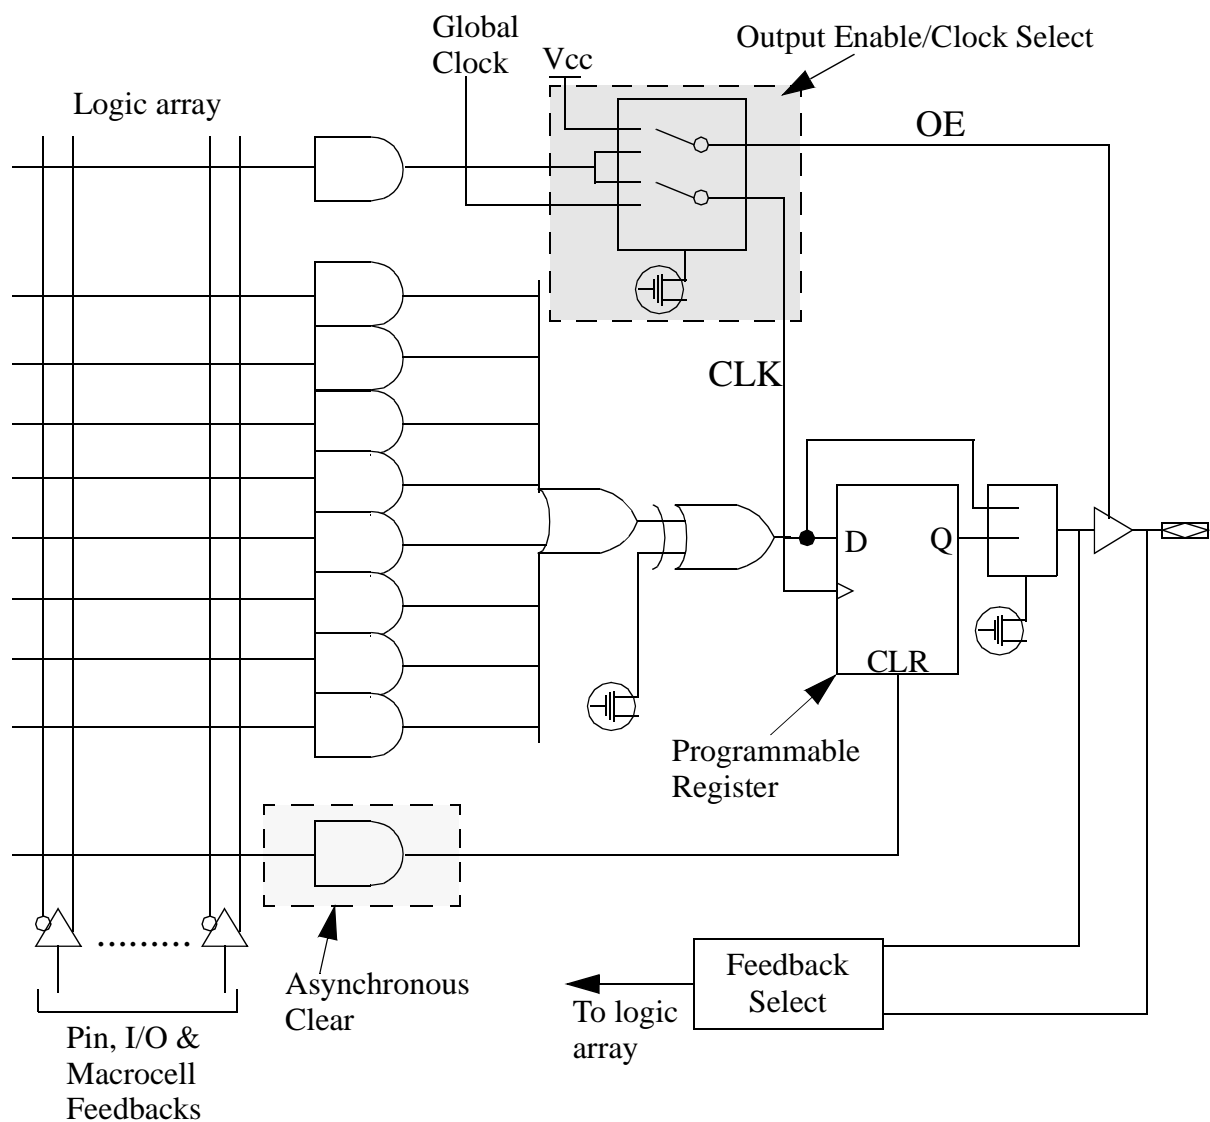
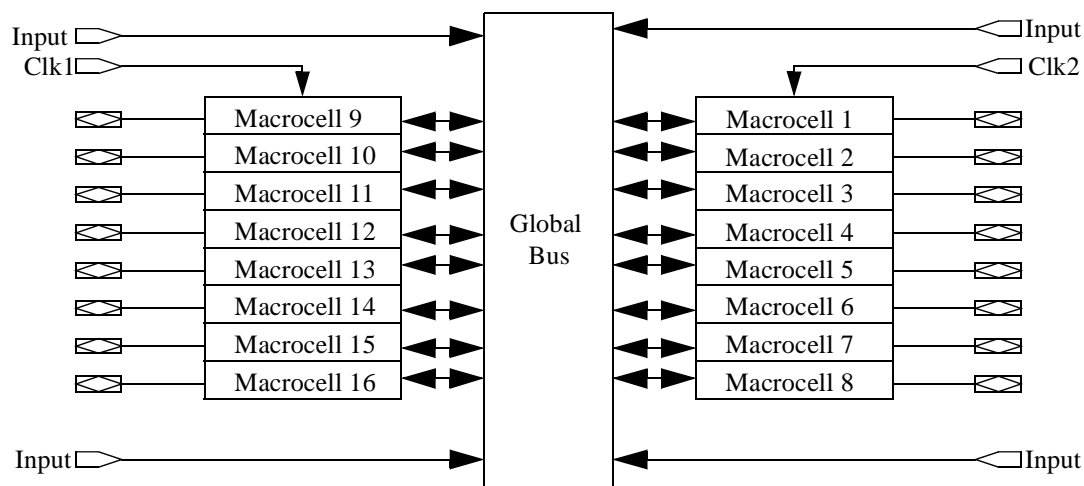

Figure 3 : Altera Classic Macrocell
Figure 4 : Internal block diagram of the Altera EP610 EPLD.
- The next generation of the PLA/PAL technology allowed the circuits to be programmed in the field and then erased and reprogrammed a number of times. Usually based on EPROM type technology for erasure. Flip flops also started to appear in on the outputs of some devices allowing sequential circuits to be built. See Figure 3 and Figure 4.